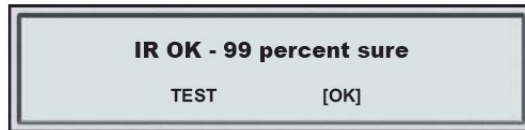

FIG. 29 IR OK – 99 percent sure
- **IR OK – 99 percent sure** - This means that more than 2 commands were received. That’s more or less the ideal response you’d like to see from Delta. Pressing **[OK]** takes user to next IR command to be learned (FIG. 29).